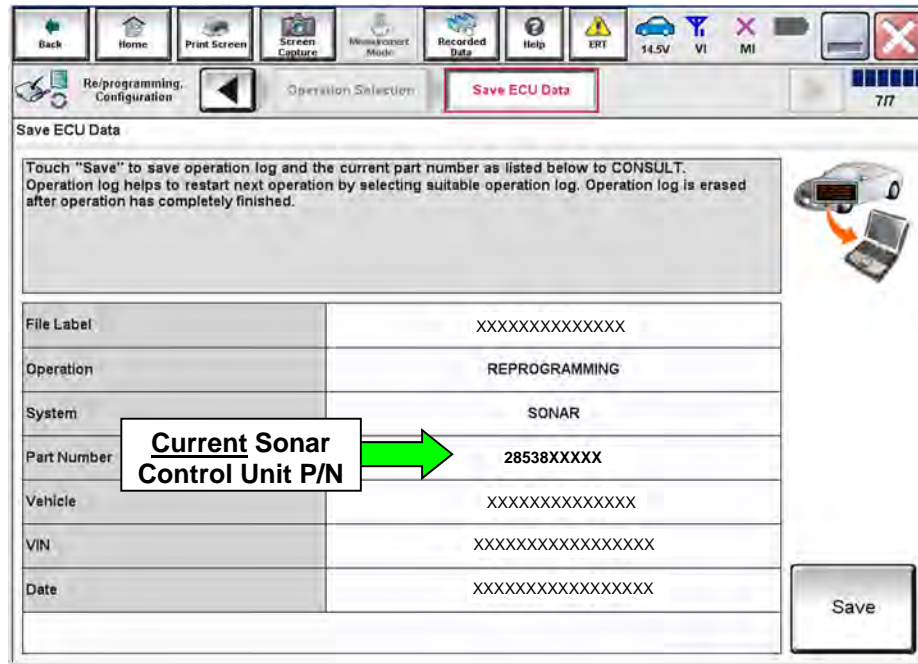

Figure 14
28. When you get to the screen shown in Figure 14, confirm that a reprogram is available as follows: